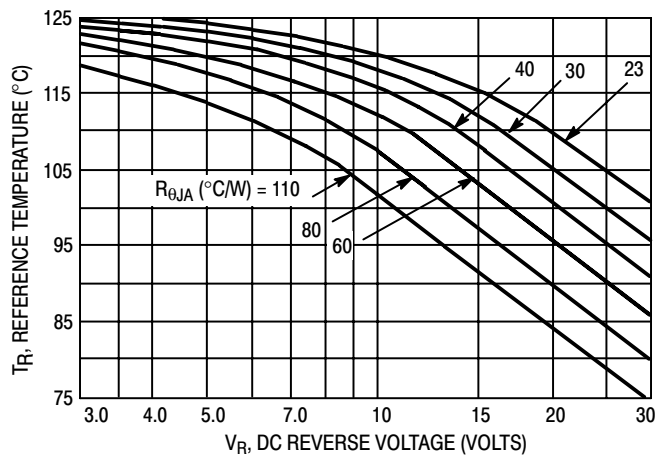

Figure 2. Maximum Reference Temperature 1N5818
- Step 2. Find T_R from Figure 2. Read $T_R = 109^\circ\text{C}$